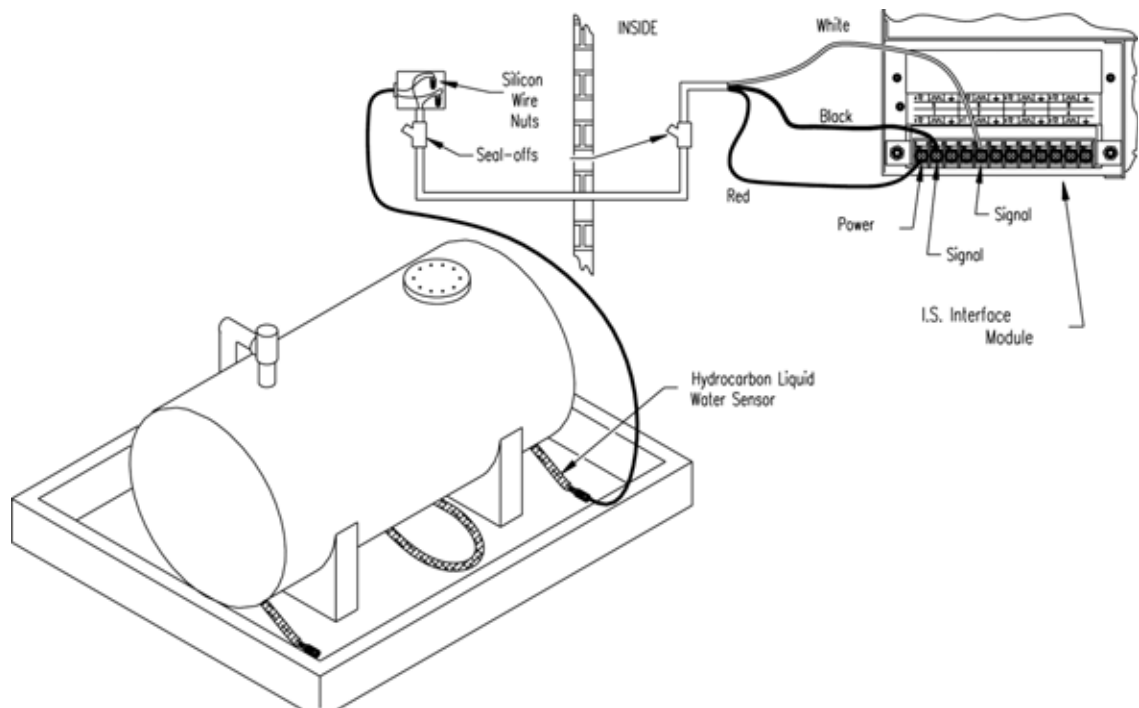

Figure 19: Hydrocarbon Liquid & Water Sensor Installation
- Review Figure 19 on page 50.